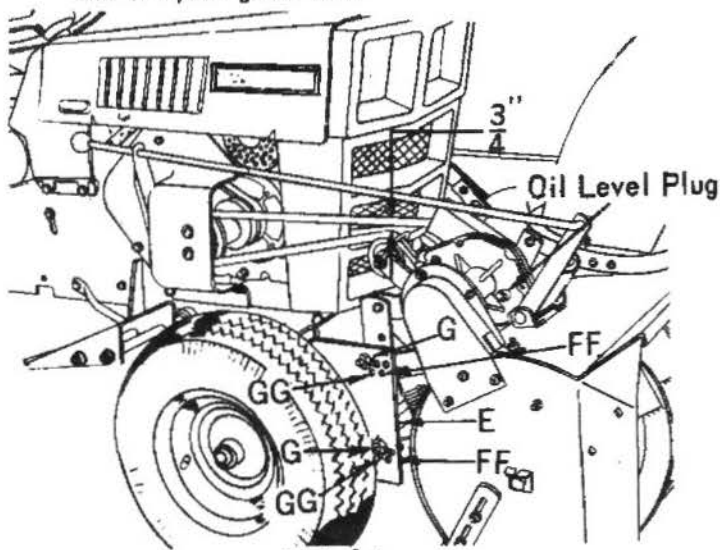

FIG. 14
With clutch engaged (rod pushed forward), and snow thrower in raised position, snow thrower drive belt must have  $\frac{3}{4}$ " clearance between belt as shown in Fig. 14. If clearance is much greater than  $\frac{3}{4}$ " clutch will not release properly. If clearance is
much less than  $\frac{3}{8}$ " belt may slip. Use the necessary holes in hanger bracket (B, Fig. 14), to acquire this clearance. Refer to Fig. 14. If there is  $\frac{3}{8}$ " or less, clearance between belt, remove bolts (G), in both R.H. and L.H. hanger brackets and insert bolts through holes (FF). Tighten bolts securely. If clearance is over 1" between belt, move bolts in L.H. and R.H. hanger brackets to holes (GG), and tighten securely. This will give less clearance to belt so that it will release properly.
Gear case was filled at factory, but check oil level before operating, and at start of each season. Oil level must be to level of front lower plug on gear case (see Fig 14.) when Snow Thrower is in operating position.